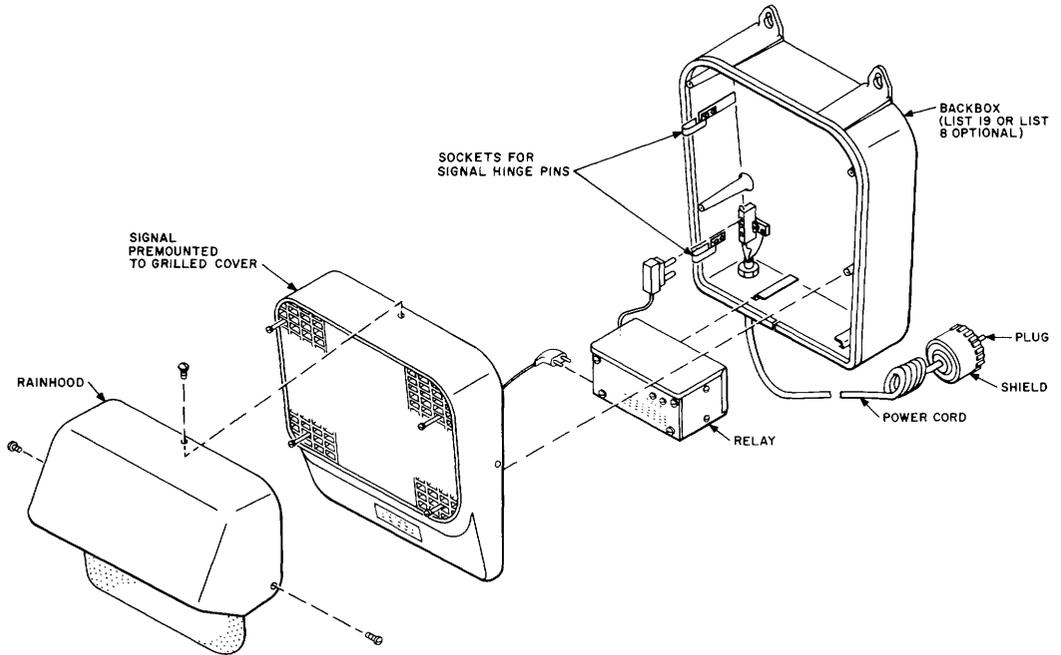

Fig. 1—Exploded View of Assembled Signal Using Relay
3.03 A typical signal (Fig. 1) includes a backbox, a signal premounted to a gridded cover, and a control relay.
3.07 Backbox (Fig. 1, 3, 5, 19, and 20)
- Mount relay in the horizontal position on mounts provided in backbox (Fig. 1).
- Engage the two pins on front cover to form a hinge with the two sockets which emerge from backbox (Fig. 1).
- Fasten the signal to the backbox with four machine screws which are furnished (Fig. 1).
- Attach with furnished screws to the signal unit (Fig. 1).